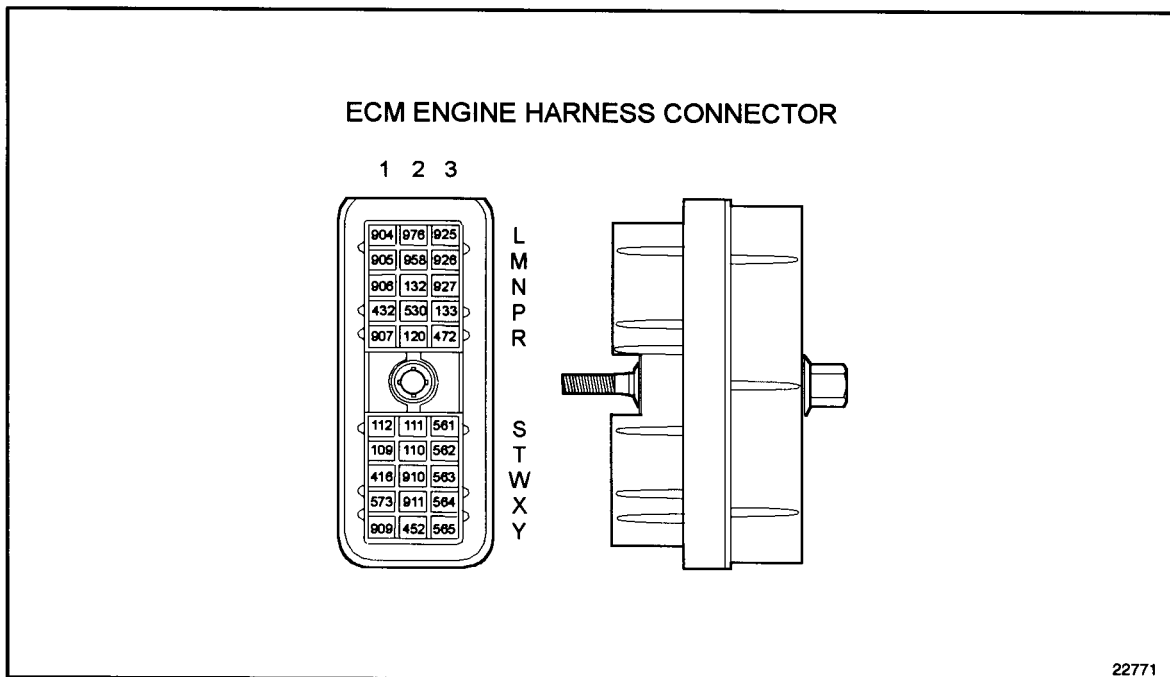

Figure 15-5 ECM Engine Harness Connector
3. Measure resistance between sockets P3 (#133) and Y2 (#452) on the engine harness connector. See Figure 15-5.